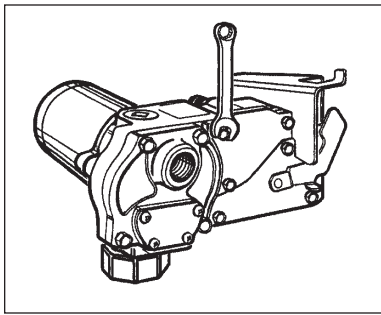

Figure 10
- Remove the electrical coverplate from the pump housing. (Figure 10) Evaluate condition of gasket. Replace as needed.